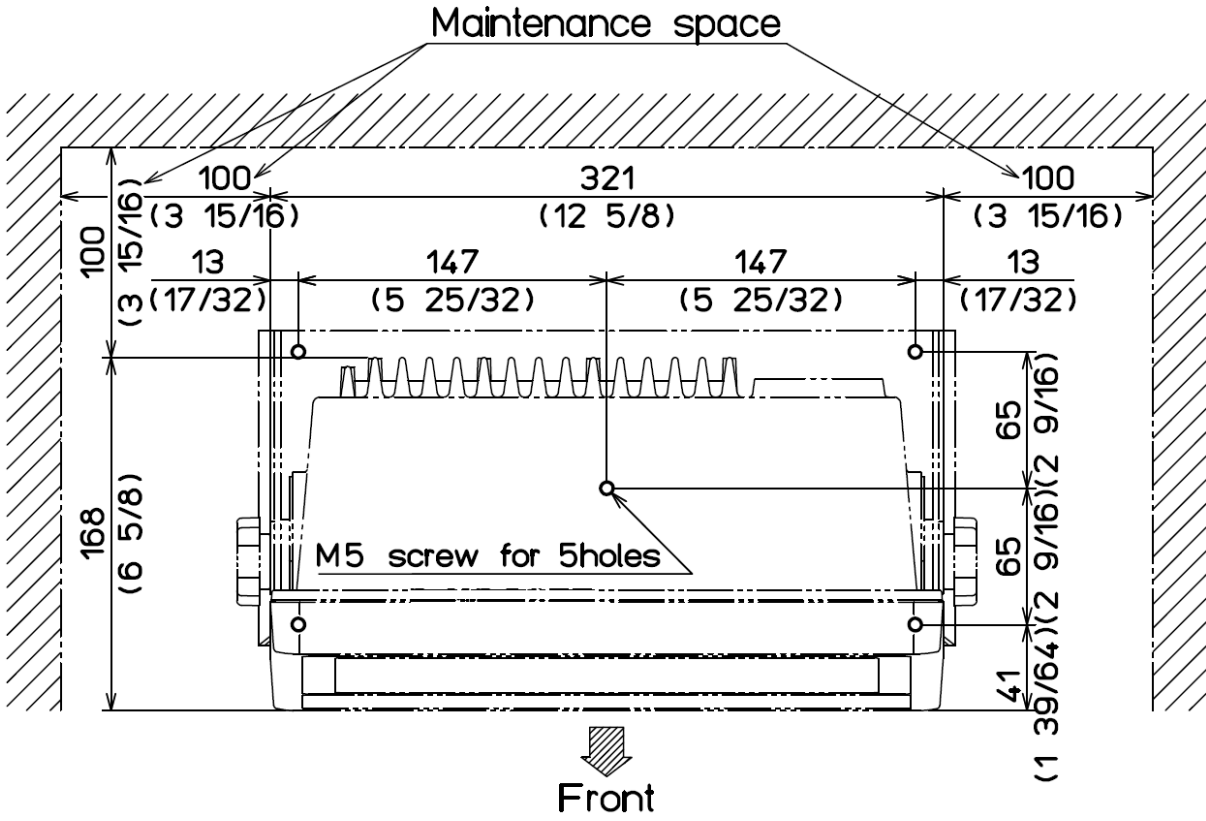

Fig. 1.3 Maintenance space
- (1) Decide the location to install the Display unit and keep the space for the maintenance works as shown in Fig. 1.3.
- (2) Place the bracket on the position where the Display unit will be installed and fix the bracket with five 5 mm screws.
- (3) Place the Display unit on the installation bracket and fix the Display unit with washers and knob bolts.